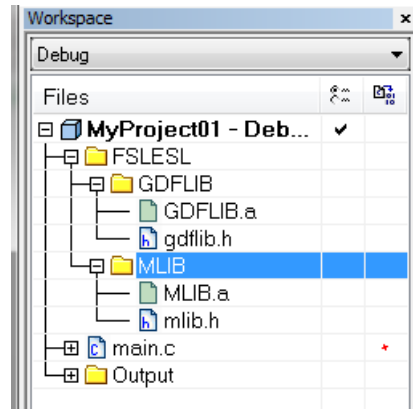

Figure 1-35. Project workspace
4. Click on the newly created node MLIB, and go to the main menu Project > Add Files... See Figure 1-35.
11. Now you will see the files added in the workspace. See Figure 1-35.